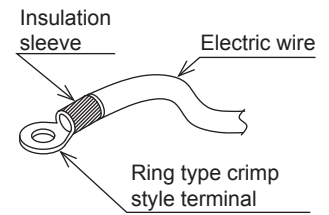

Fig. 11
- Be sure to use ring type crimp style terminals with insulation sleeves to connect wires to the power supply terminal block. **(Refer to Fig. 11.)**